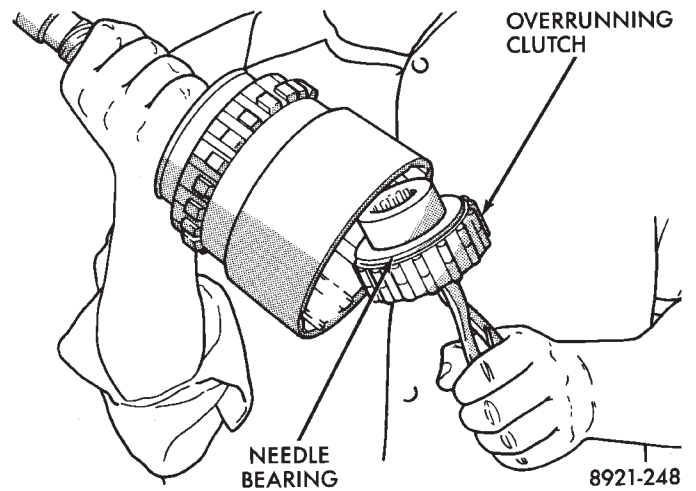

Fig. 27 Removing Overrunning Clutch Assembly
- (17) Remove overrunning clutch assembly with expanding type snap ring pliers (Fig. 27). Insert pliers into clutch hub. Expand pliers to grip hub splines and remove clutch with counterclockwise, twisting motion.